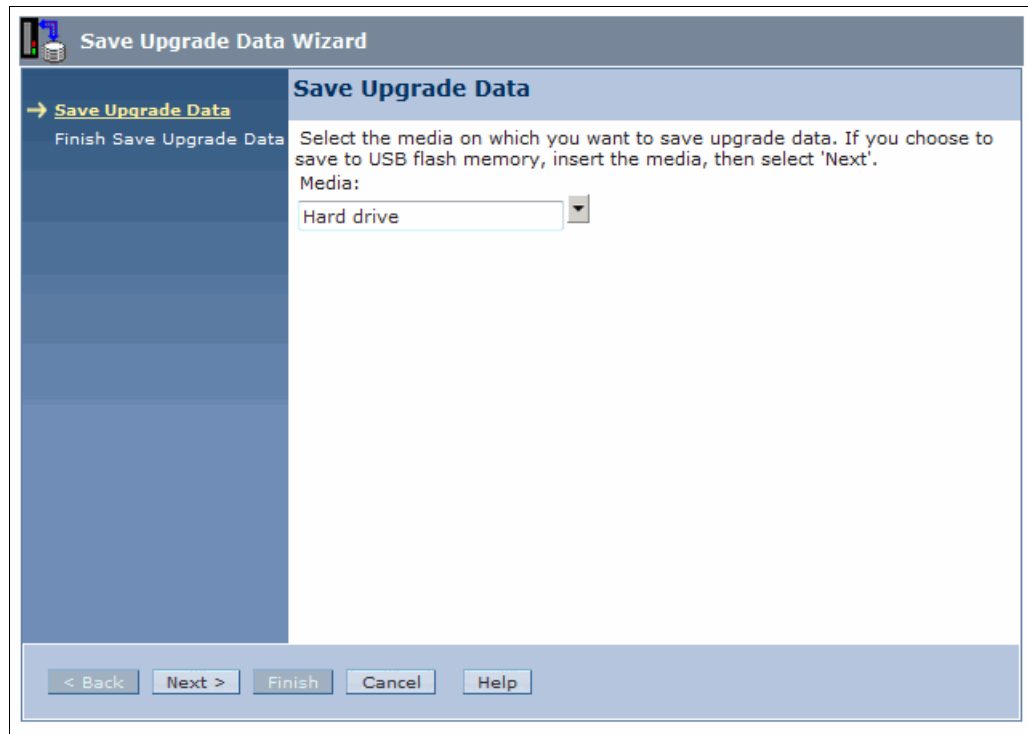

Figure 3-124 Upgrade data location
2. Select the type of media where you want to save the upgrade data (Figure 3-124). In this example, choose **Hard drive**, and click **Next**.